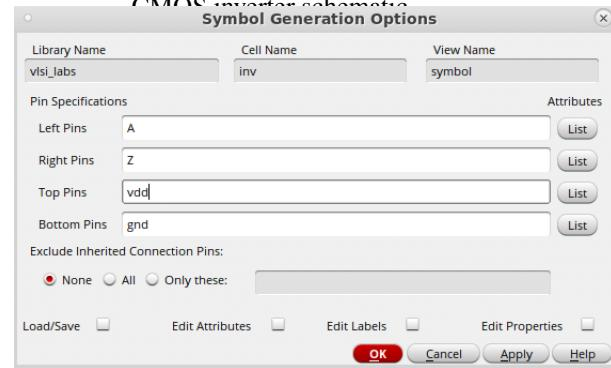

Figure 16: Cellview pin location.
- Another window appears (Fig. 16) where you can specify the location of the pins on your symbol. It is a good practice to set the inputs on the left, the output on the right and the power supply pins on top or bottom, depending on the direction you chose when you defined your schematic pins, the pins should be correctly placed here.